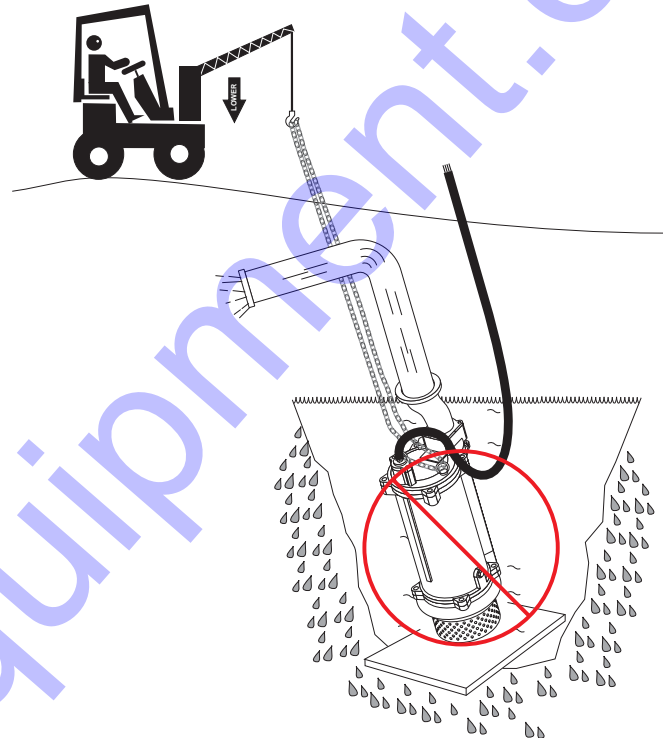

Figure 11. Tilted Position (Incorrect)
2. Make sure the pump is always placed in an upright position, not tilted (Figure 11). Never position the pump directly on a soft, loose bottom. To attain maximum pumping capacity and prevent excessive wear, position the pump so it will not burrow itself into sand or clay.